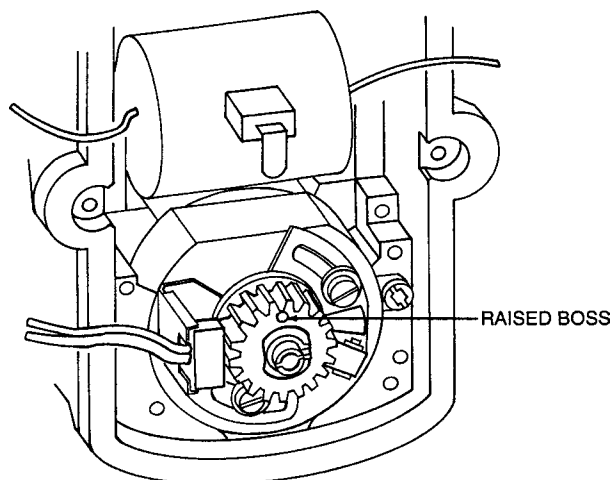

Figure 9.17
9.17 ALIGN ROTOR GEAR (17)
- A. Align the index mark on the rotor gear (17) so that it points toward the high tension tab of the coil (21). Secure rotor shaft (10) to prevent rotation during assembly. (See Figure 9.17).